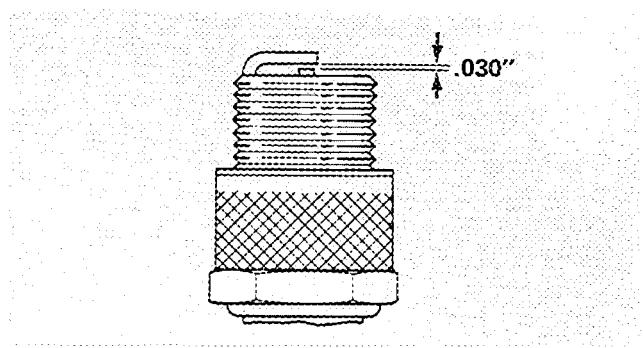

Figure 14
4. Set air gap between center and side electrodes at 0.030 of an inch (Fig. 14). Install correctly gapped spark plug w/ gasket seal, and tighten plug to 20 ft-lb. If torque wrench is not used, tighten plug firmly.